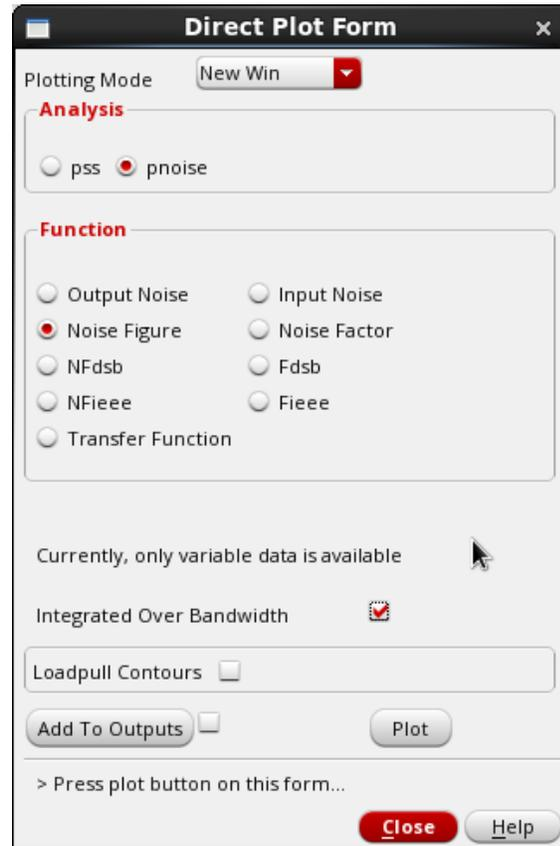

Fig. 26
- From Results/Direct Plot/Main Form choose Pnoise and plot NF, NF_{DSB} , and NF_{SSB} . Check the box to calculate “integrated noise over bandwidth” (Fig. 26) .